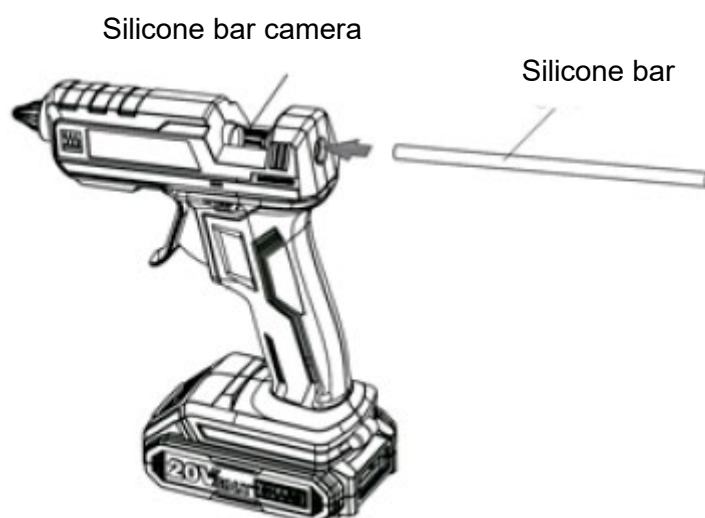

Fig.3
- Press the button on the battery to remove it. (Fig.3)